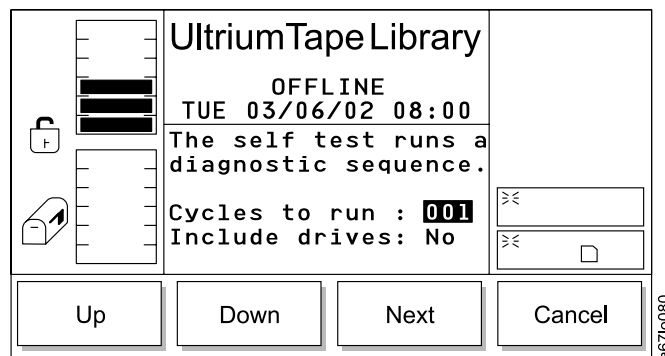

Figure 184. Self Test Dialog
- If **Self Test** is selected, the Self Test Dialog displays (see Figure 184 on page 145).
- If **Next** is selected, the next field in the list becomes the active field. After you reach the end of the field list, the active field reverts to the first field in the list (see Figure 184 on page 145).